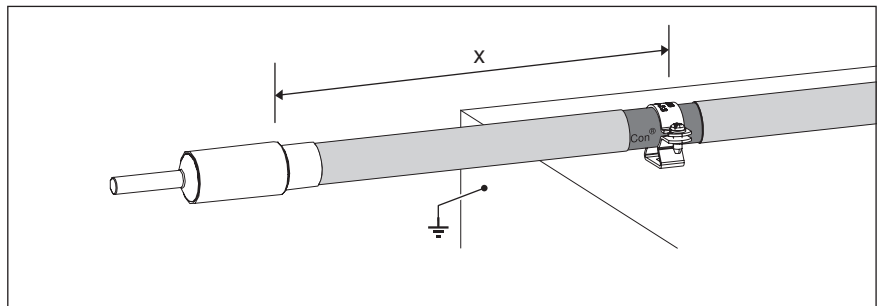

**Fig. 58:** Distance between the connection element and the potential connection terminal
- Connect the potential connection terminal to the equipotential bonding with  $\geq 6 \text{ mm}^2 \text{ Cu}$  or a material with identical conductivity (see Fig. 58).